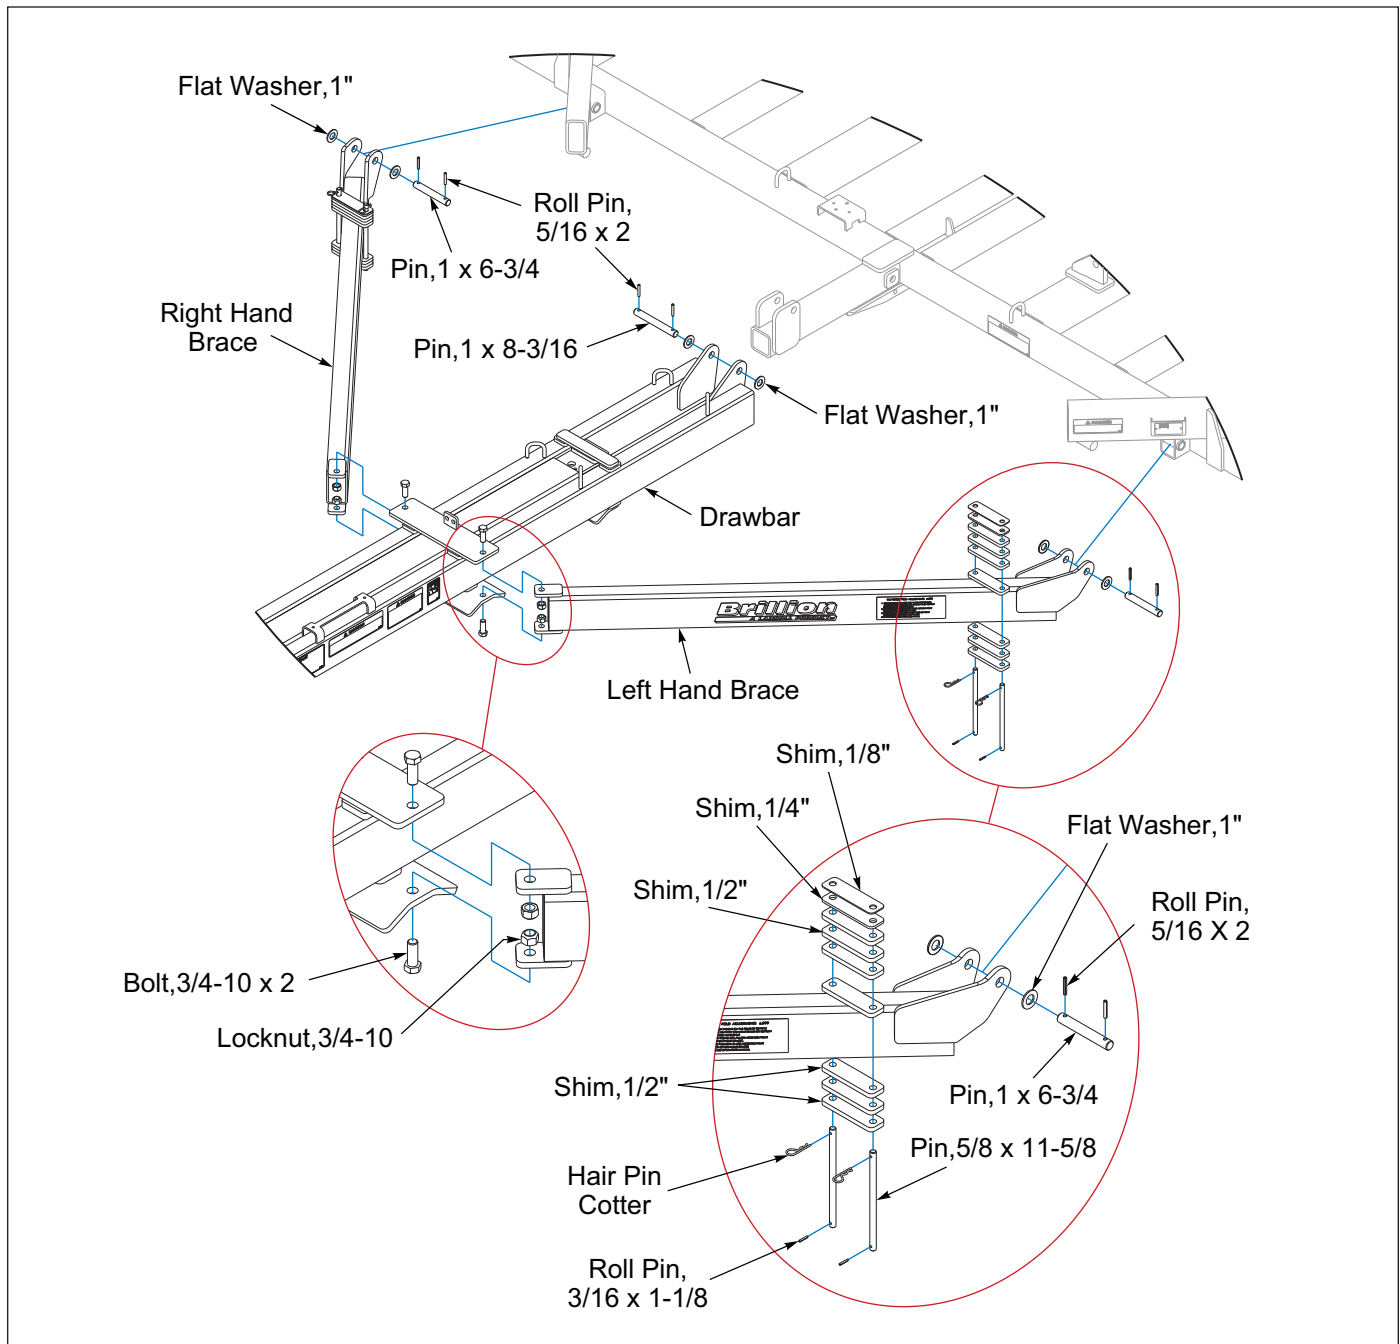

Figure 2-7: Drawbar and Brace Installation
1. Attach the Drawbar to the Frame by inserting 1 x 8-3/16 Pin through the Drawbar Lugs and the Frame Mounting Tubes. Place a 1 inch Flat Washer on each side and secure with 5/16 x 2 Roll Pin. The Drawbar Braces are left and right. Set the end of the brace with straight straps between the straps on the Drawbar. Attach the end of the Brace with bent plates to the Center Frame using 1 x 6-3/4 Pin with a Flat Washer on each end and 5/16 x 2 Roll Pins. **See Figure 2-7.**